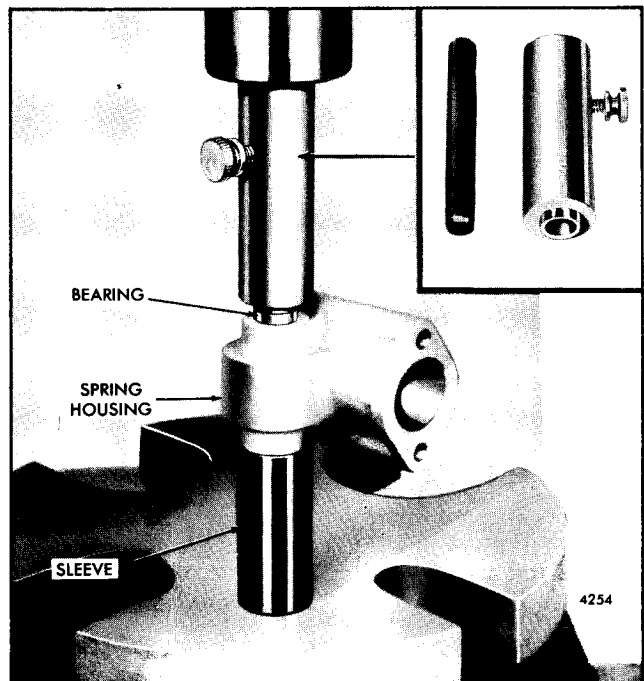

Fig. 15 - Installing Speed Control Shaft Bearings In Spring Housing using Tool J 9196
3. Place the pilot rod end of the bearing installer assembly in the bearing. Support the spring housing, bearing and installer on a short sleeve on the bed of an arbor press as shown in Fig. 15, then press the bearing in the housing until the shoulder on the installer contacts the housing.
10. Remove the bearing pilot rod J 9196-2 from the installer body J 9196-1 and place the installer body over the end of the shaft and against the bearing. Support the spring housing, bearings and installer on a short sleeve on the bed of an arbor press as shown in Fig. 15, then press the bearing in the housing until the shoulder on the installer contacts the housing.